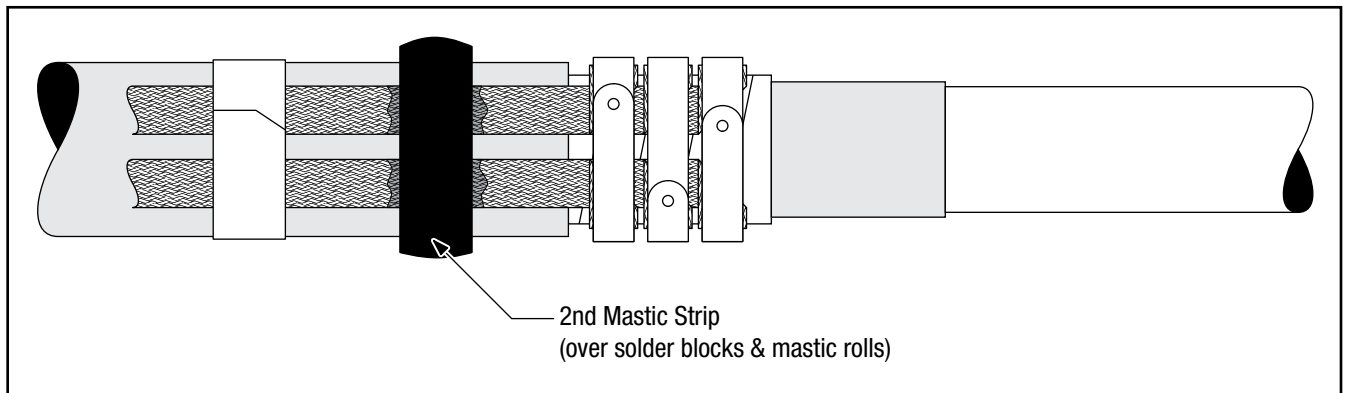

Figure 8
- 2.7 Select the roll of 1" (25 mm) wide 3M™ Scotch-Seal™ Mastic Tape 2229 from the kit and cut a length of the mastic. Using light tension, apply a single wrap of mastic around the cable jacket over the ground braid solder blocks and the previously applied mastic. (*Figure 8*)